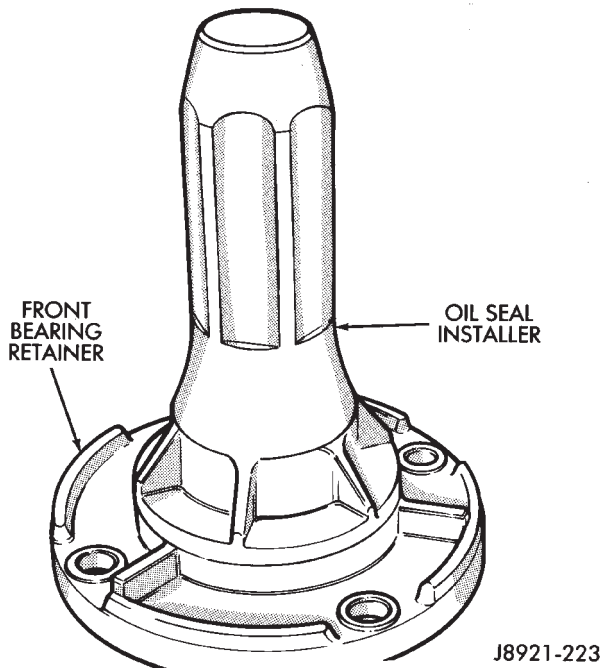

Fig. 53 Install Front Bearing Retainer Seal
(17) Install new seal in front bearing retainer (Fig. 53).